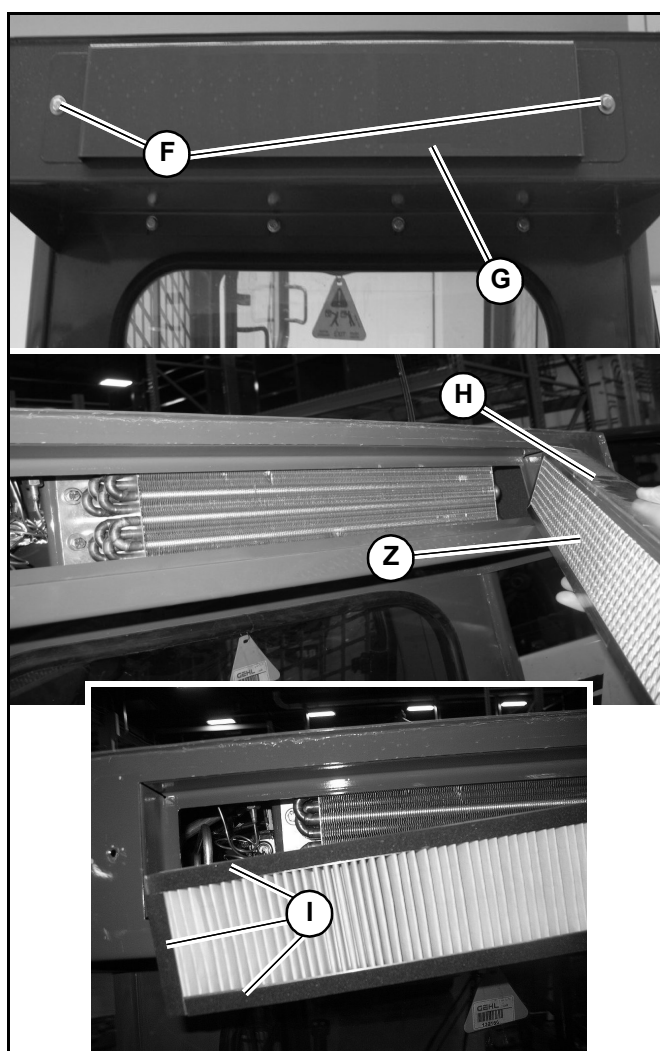

Fig. 122 – Air Conditioning Outside Air Intake Filter
2. Remove hardware (F, Fig. 122) securing the outside air filter cover (G). Remove cover (G).
3. Remove old air filter (H)
4. Install new air filter (H), positioned so the side with the metal grate (Z) faces in.
5. If necessary, apply foam strips (I) to the outside edges of new air filter to provide a good seal.
6. Replace cover (H) and secure with hardware (F)